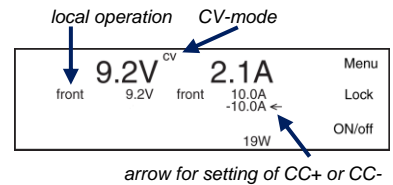

fig 3 - 3 - 19 W output power.
- By default a unit is in local operation, see fig. 3 - 3.